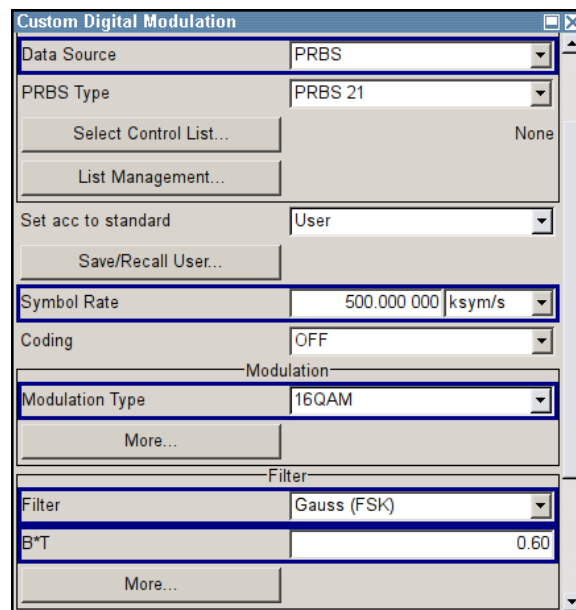

Figure 6. Signal generator settings for QAM-modulation.
12. In signal generator select from **Baseband config...** menu **Custom Digital Mod ....** Check that the **Data Source** is set to *PRBS* (the number of bits does not matter) and select from **Modulation Type** menu *16QAM*. Set symbol rate to  $500 \text{ Ksym/s}$ . Set shaping filter **Filter** to *Gauss (FSK)* and set the filter parameter to 0.6. Finally, activate the modulation by switching on the *Custom Digital Modulation* button at the top of the window. The settings are also shown in Figure 6.